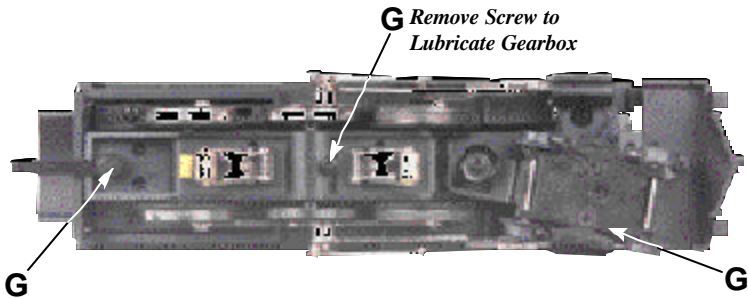

Figure 6 - Greasing the Engine
3. You should lubricate all side rods and linkage components and pickup rollers to prevent them from squeaking. Lightly grease the drive gears (marked "G" in Fig. 6 on page 11) to prevent them from squeaking. Use light household oil and follow the lubrication points marked "L" in Fig. 4 on p. 10. Do not over-oil. Use only a drop or two on each pivot point.
You should also lightly grease the leading and trailing locomotive truck tongues to enhance their ability to slide on the chassis. Follow the grease points shown on Fig. 6.